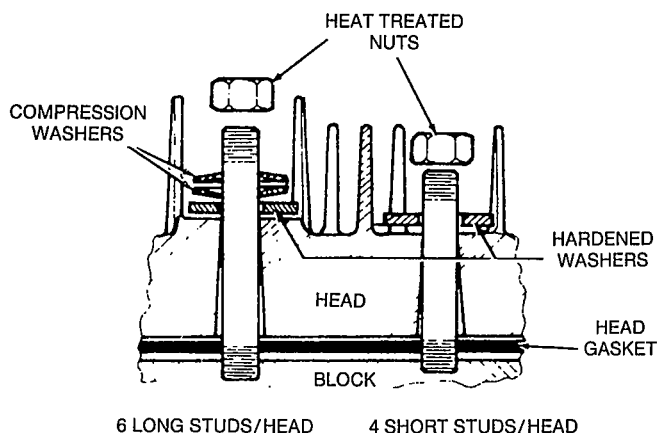

FIGURE 65. CYLINDER HEAD WITH COMPRESSION WASHERS
5. Some engines have two compression washers and one hardened washer on the long cylinder head studs (top 6 studs on each side) as shown in Figure 65. When these washers are used, they must be installed as shown. When properly installed, only the outside edges of the compression washers will be in contact with each other. Install a flat washer and nut on each of the four bottom studs.